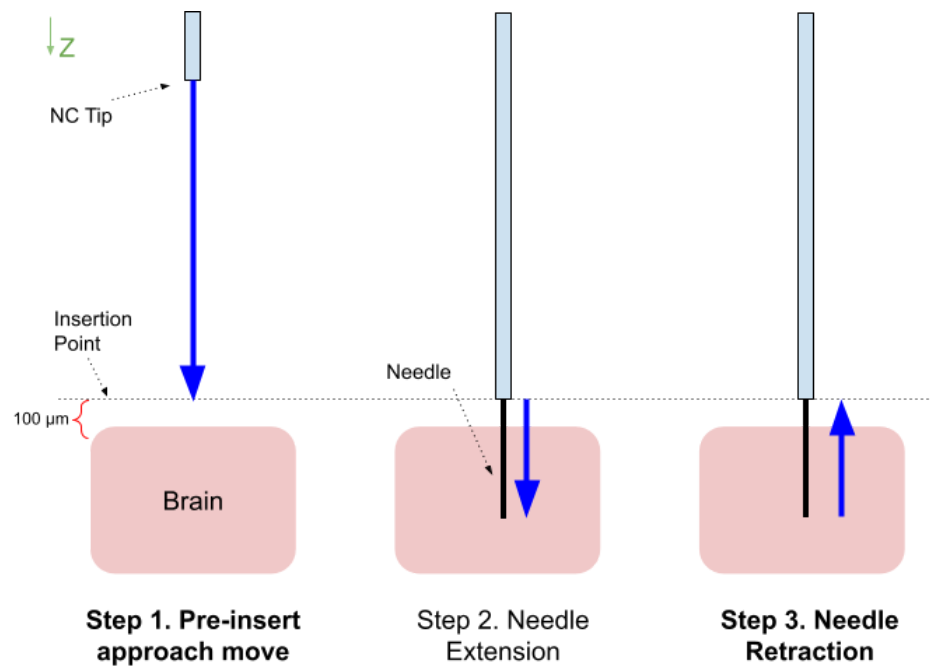
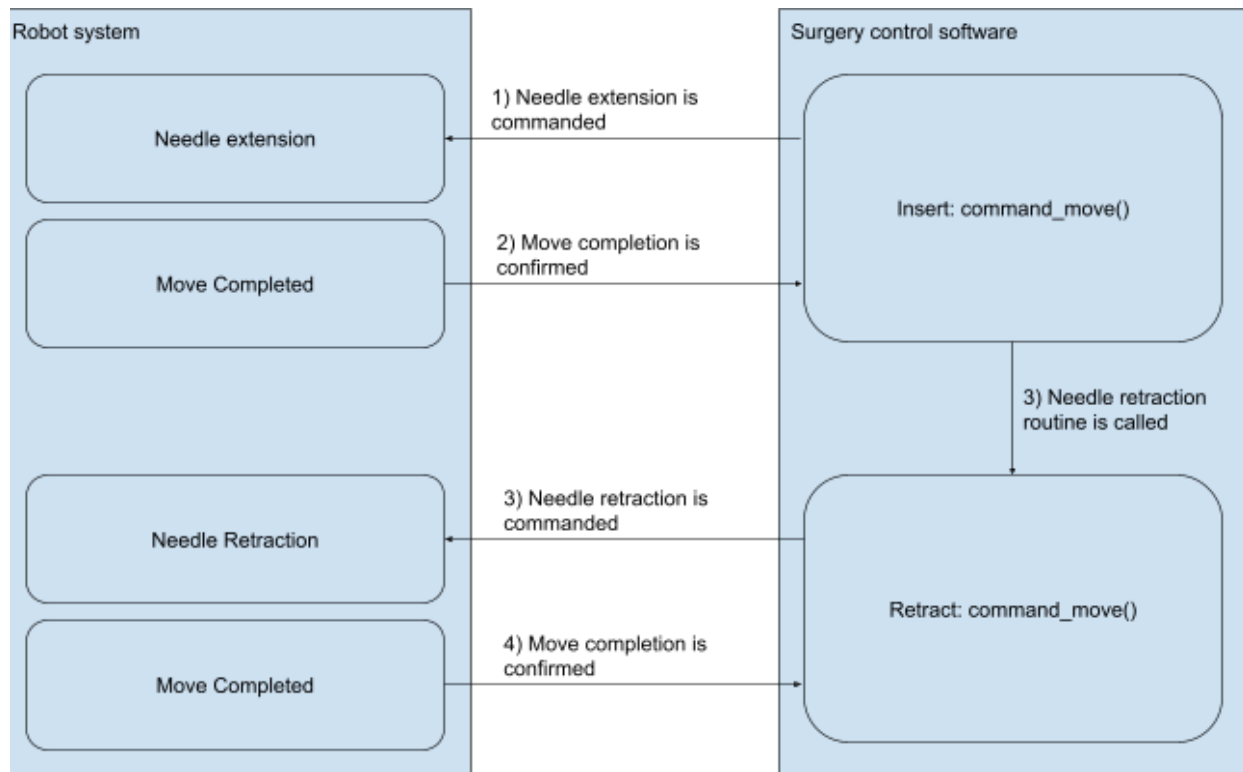

Figure 2. Steps required for a complete “insertion cycle”
Figure 3. Expanded systems diagram for Step. 2 and Step 3 of the insertion cycle
A full insertion cycle involves the “pre-insert approach move” which brings the robot close to the cortex. Once it is within some distance (in this example, the distance is 100um but does not have to remain 100um in your solution) from the brain, the needle extends and retracts. The full insertion cycle is portrayed in **Figure 2**.
Figure 3 is an expanded systems diagram that explains the internal interaction between the surgery control software (which you are tasked with implementing) and the hypothetical robot software (which you **are not** tasked with) during steps 2 and 3 of **Figure 2**.
- b) Your implementation should reliably, efficiently, and safely complete steps 1, 2, and 3 in **Figure 3** *at least* 128 times (since there are 128 threads per single N1 implant, but some insertions may face failure modes which should be handled accordingly)